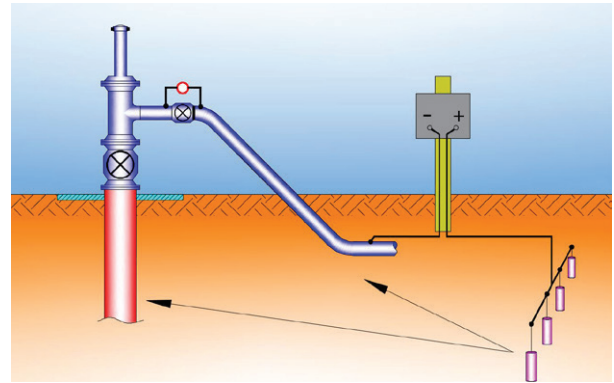

Figure 1: Current flow from anodes to cathodically protected assets.
Pipeline coatings, common on horizontal lines, are the first and foremost defense against external corrosion for pipelines. Cathodic protection (CP) complements these coatings in ensuring asset protection. For bare steel downhole casings, a more robust CP system is necessary. While either or both galvanic anode and impressed current systems can be used in cathodic protection, differing levels of protection are likely needed for the pipeline versus downhole assets. Establishing the current density criteria in a horizontal pipeline is a very different process than one applied to a storage field. Furthermore, current flow does not discriminate amongst assets (see Figure 1). Operators are advised to be fully aware of all assets and deploy a CP system that is holistic. Most operators may be best served by consulting an outside resource with a solid track record in addressing the nuances of storage field cathodic protection.